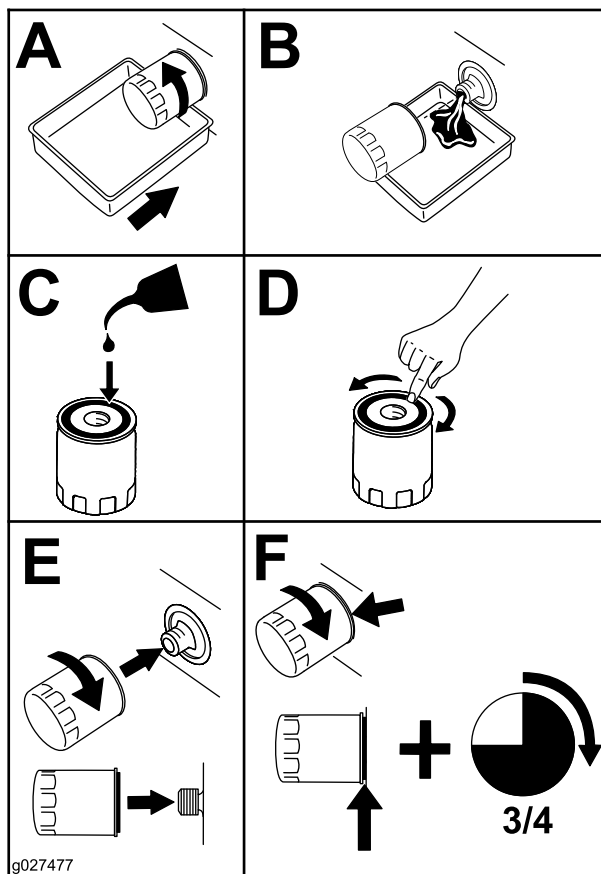

Figure 37
5. Change the engine-oil filter (Figure 37).